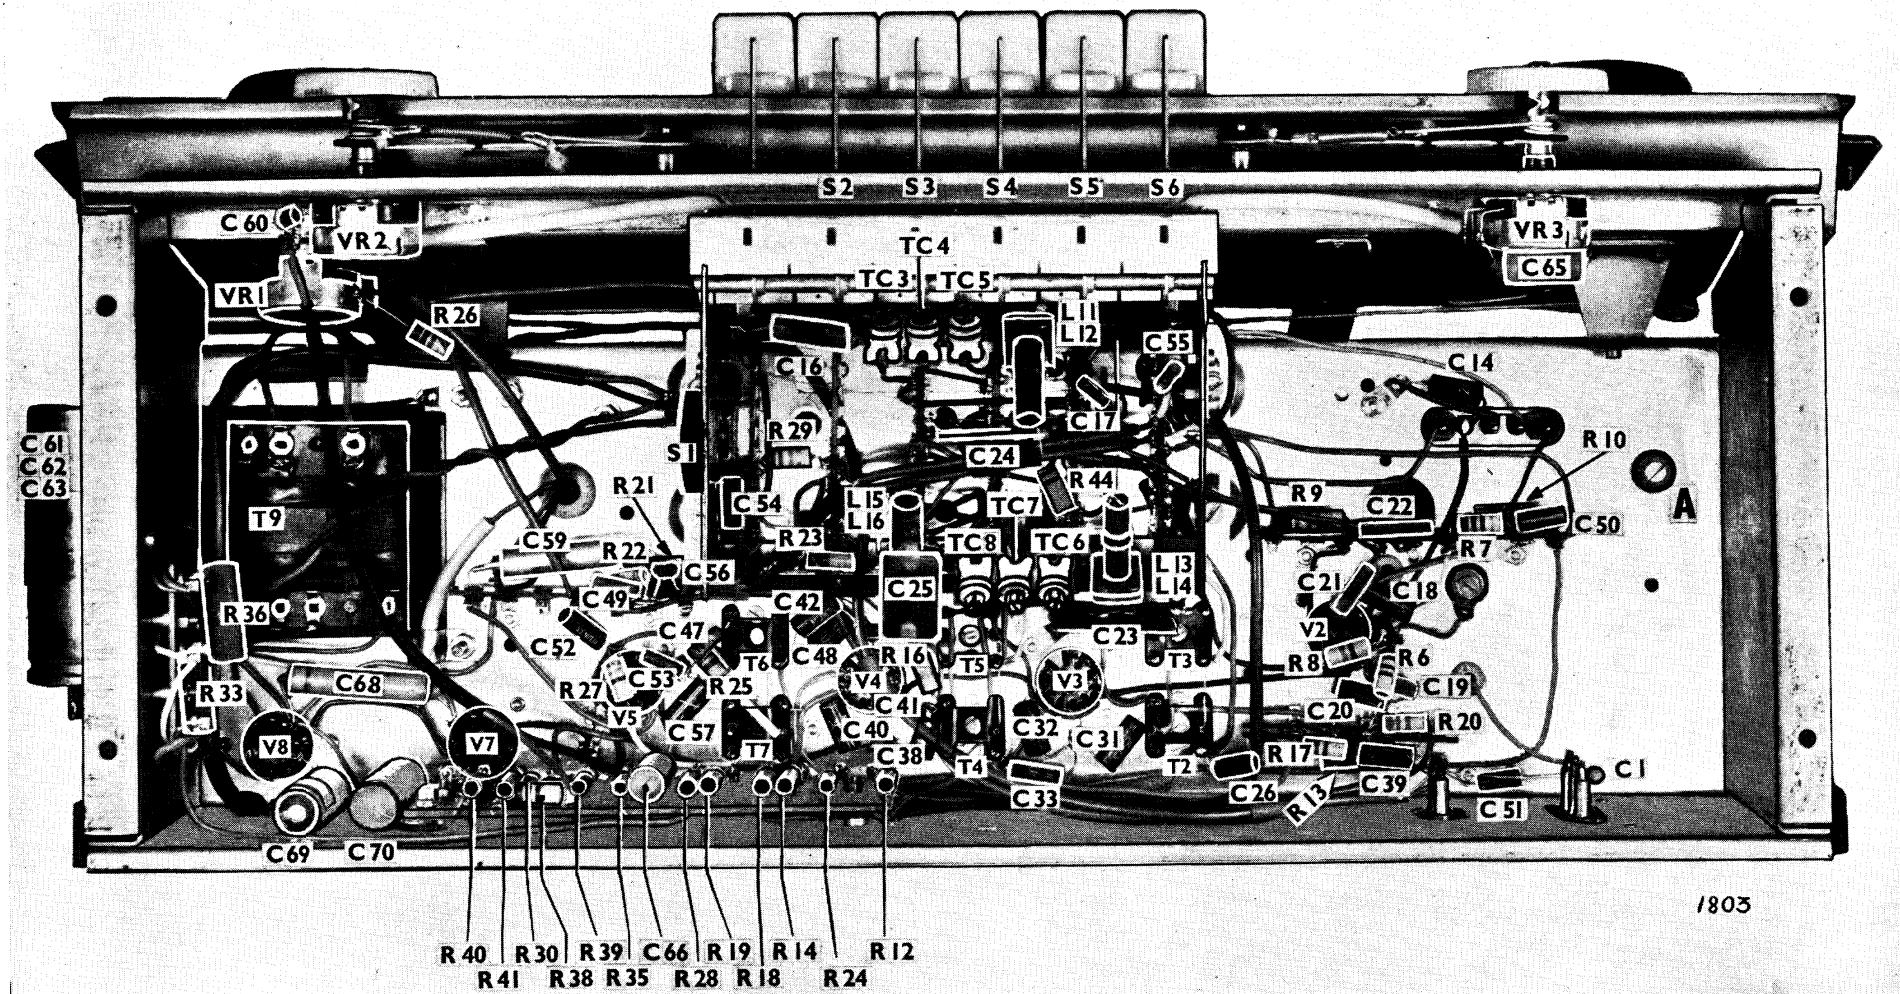

Fig. 4—Under View VHF.64
- (1) Unsolder the five connections to the box, see below.
- (2) Set the tuning capacitor to minimum and slip the cord loop from the brass boss.
- (3) Remove the three bolts holding the box to the bracket and remove the bolt (A fig. 4) from beneath the chassis.
(See fig.4)